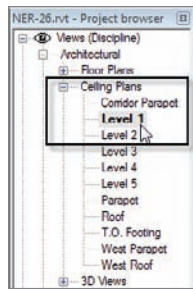

FIGURE 9.1 The Ceiling Plan category
1. Go to the Level 1 ceiling plan, as shown in Figure 9.1 (remember, this is a ceiling plan, not a floor plan).